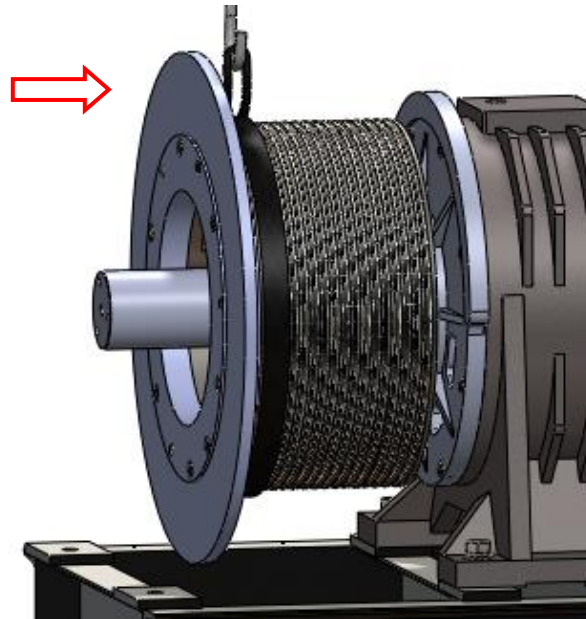

Figure 63: Lift sheave onto shaft
3. Use a lifting device to suspend the sheave and clean the mating surface. Then slide the sheave onto the cone shaped section of the shaft, making sure it is fully seated. See Figure 63.